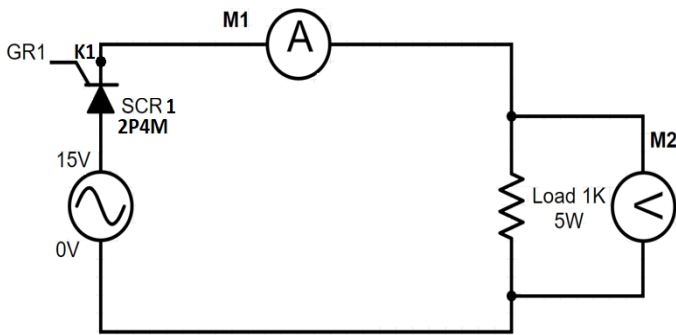

Figure 25
1. Connect the circuit as shown in Figure 25.
6. Connect circuit as shown in Figure 25.